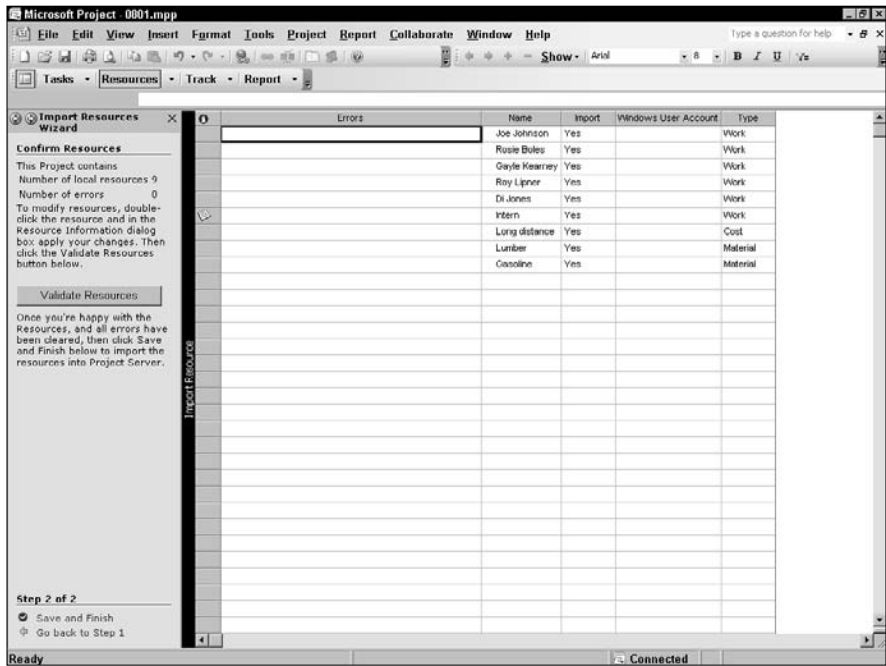

Figure 2-7: Identify resources that you want to store in the Enterprise Resource Pool.
6. Identify the resources that you want to upload to the Enterprise Resource Pool by choosing Yes in the Import column (see Figure 2-7).